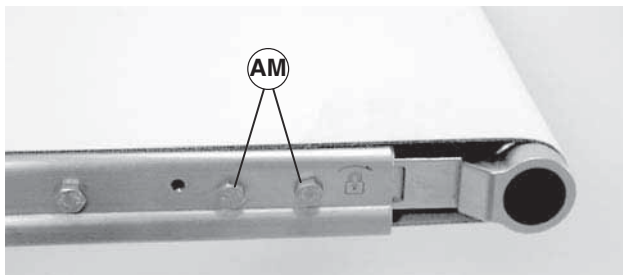
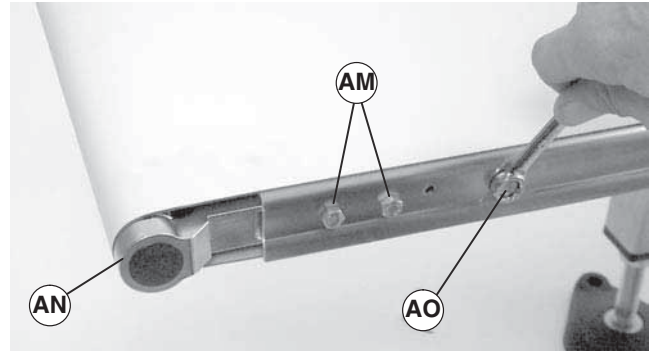
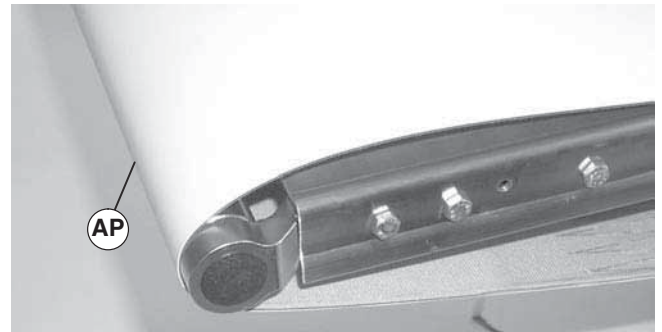

Figure 18
Figure 19
Figure 20
4. Loosen four M6 hex head cap screws (Figure 18, item AM) and (Figure 19, item AM).
5. Retract idler spindle assembly (Figure 19, item AN) by pushing in on it or by turning M6 hex head pinion screw (AO) clockwise.
6. Remove conveyor belt (Figure 20, item AP).
4. Loosen four M6 x 20 mm hex head cap screws (Figure 18, item AM) and (Figure 19, item AM).
5. Retract idler spindle assembly (Figure 19, item AN) by pushing in on it or by turning M6 x 25 mm hex head pinion screw (Figure 19, item AO) and (Figure 20, item AO) clockwise.
2. Slide belt (Figure 20, item AP) onto the conveyor frame assembly.